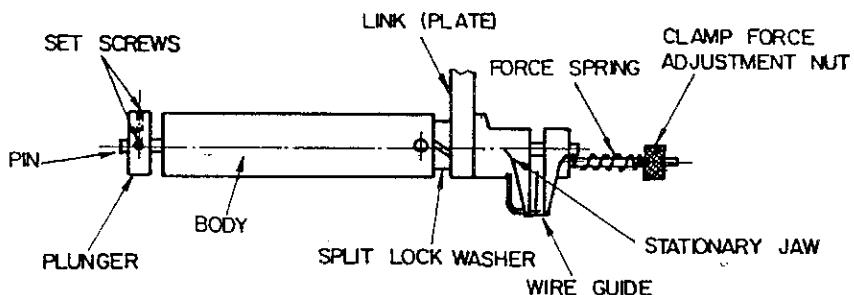

Figure 9-7 Clamp Solenoid and Wire Clamp
The Clamp Solenoid (Figure 9-7) opens the Wire Clamp against the opposing force of a compressed spring. The solenoid is mounted on the Bonding Head casting behind the Wedge. The clamp gap must be readjusted when replacing a solenoid or on clamp malfunction. The clamping force must be adjusted whenever you change to bonding wire of a different diameter.
- Step 2 Using a wrench, unscrew the Wire Clamp from the Clamp Solenoid. Grasp the Wire Clamp on the stationary jaw (see Figure 9-7). Carefully remove the Wire Clamp and split lock washer.
- Step 2 Loosen the two set screws that secure the solenoid plunger to the pin (see Figure 9-7).
- Step 7 Adjust the clamping force by turning the two clamp force adjustment nuts (Figure 9-7). Set the clamping force so that the wire will just tear when pulled (approximately 100 grams for a gap of 0.005" [127 microns]).